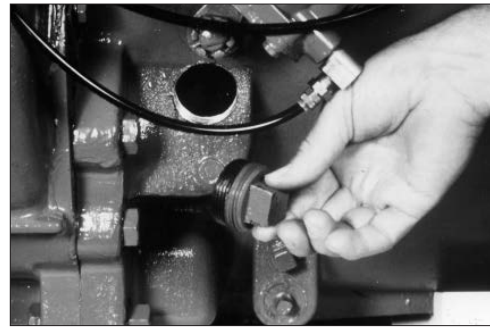

Figure 15
1. Remove the filler plug from the transmission and add recommended transmission lubricant to the level prescribed by the transmission or truck manufacturer (**Fig. 15**).